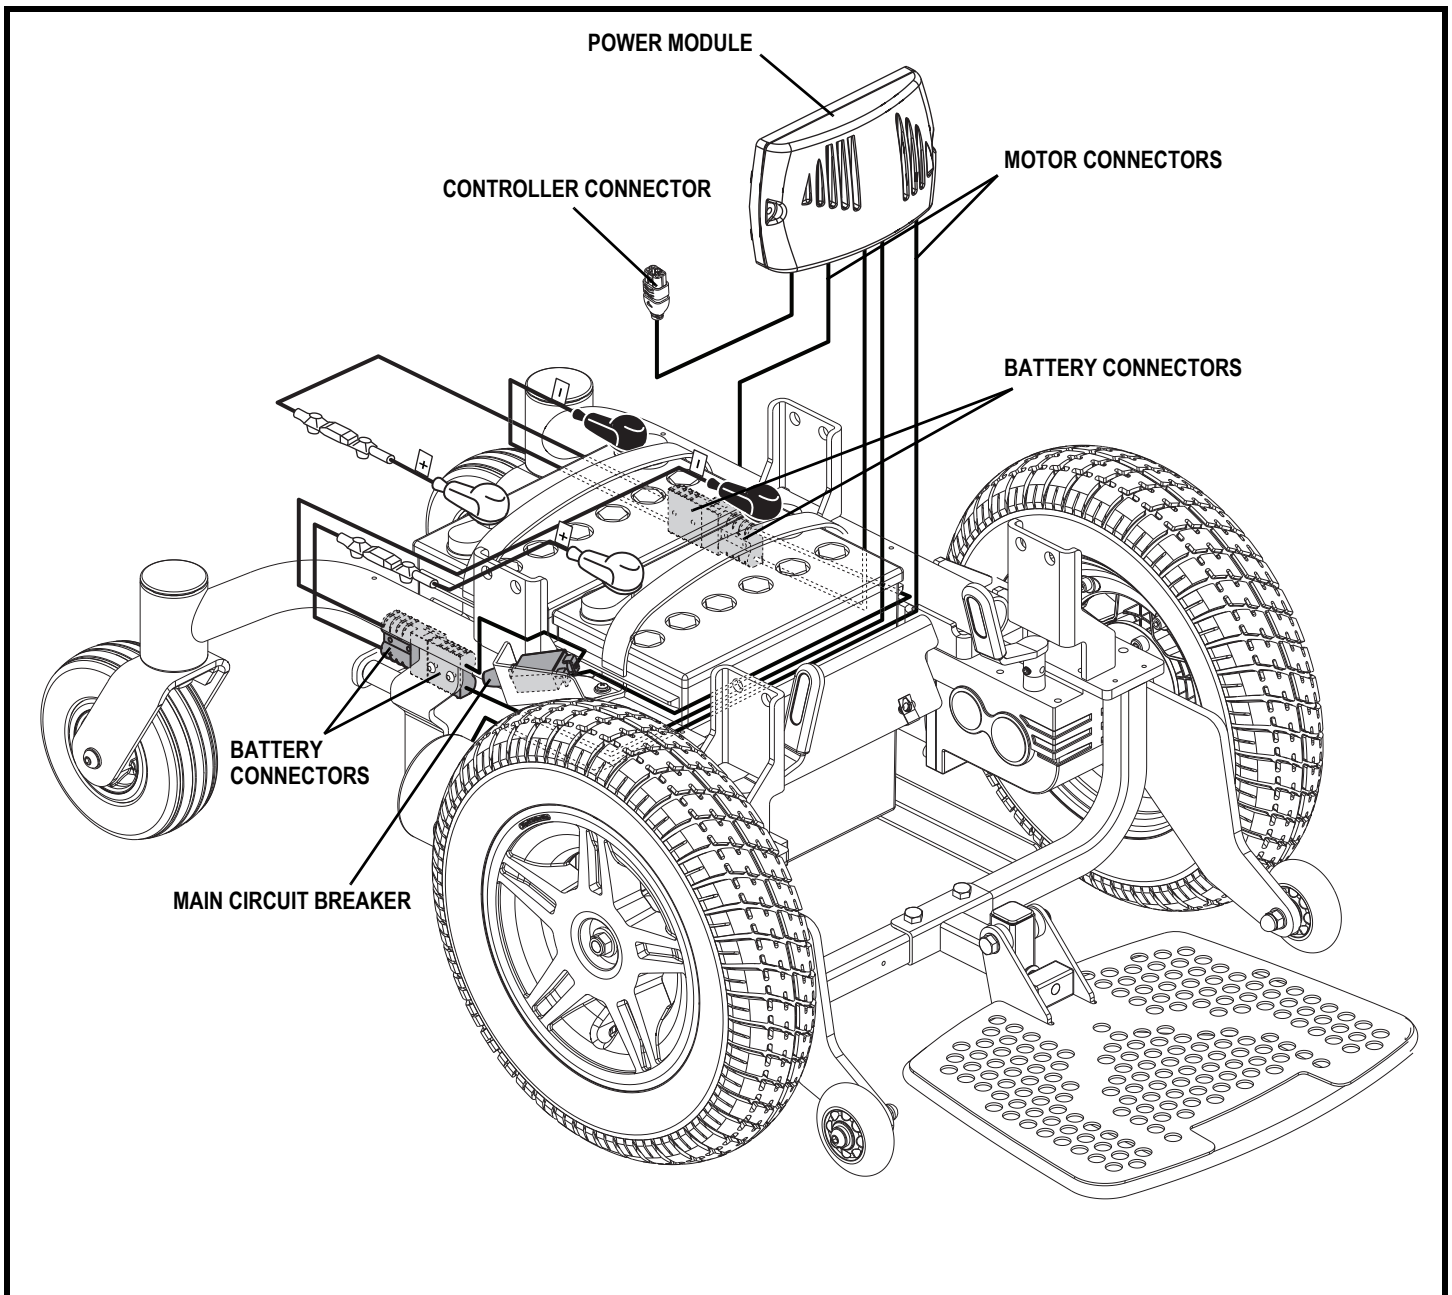

Figure 3. Jazzy Elite Series Electrical Components
The electrical components are located either on or inside the power base. The main circuit breaker is located on the right side of the power base. The power module is located under the front cover. See figure 3.
**Main Circuit Breaker:** The main circuit breaker is a safety feature built into your power chair. When the batteries and the motors are heavily strained (e.g., from excessive loads), the main circuit breaker trips to prevent damage to the motors and the electronics. If the circuit trips, allow your power chair to “rest” for approximately one minute. Next, push in the circuit breaker button, turn on the controller, and continue normal operation. If the main circuit breaker continues to trip repeatedly, contact your authorized Pride Provider. See figure 3.
5. Plug the controller connector into the front of the power base. See figure 3.
3. Unplug the controller connector(s) from the power base. **See figure 3.**